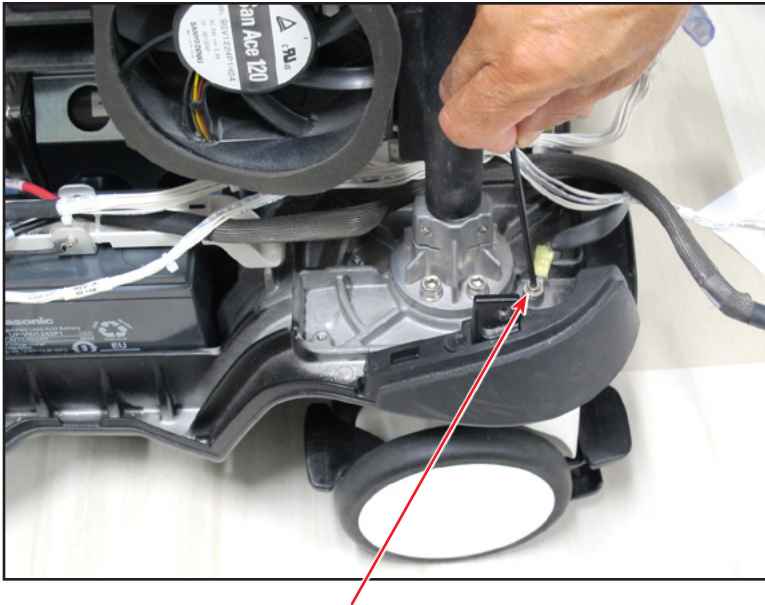

Figure 3-55 IV Pole Ground Screw Location
- 45.14 Remove one 3 mm hex screw securing W181 IV Pole ground cable to base. See Figure 3-55 for screw location.